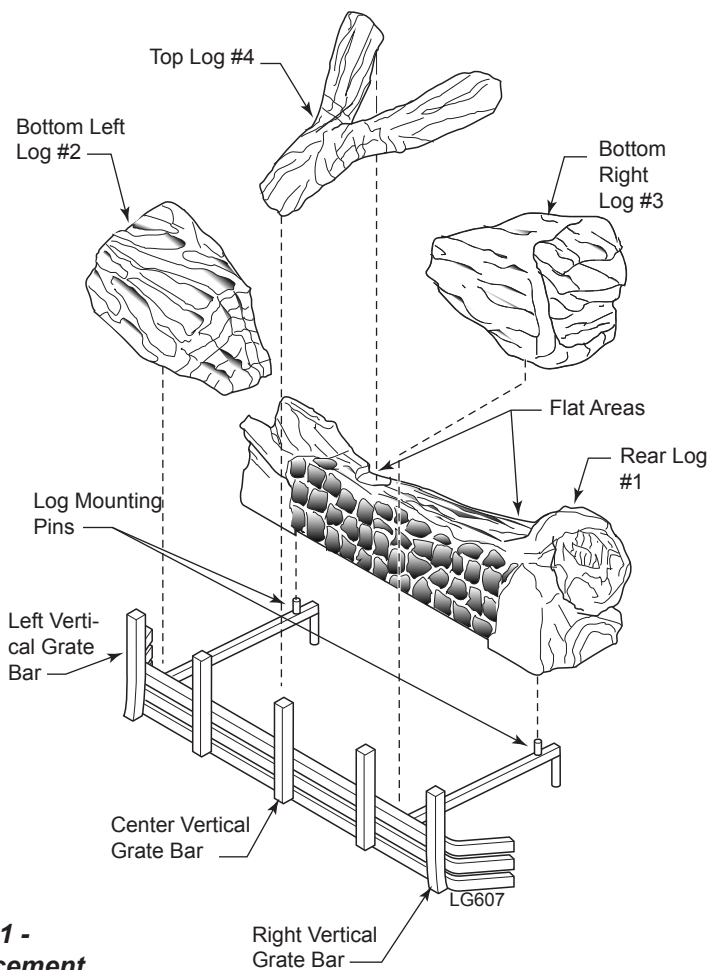

Figure 61 - Log Placement (300DVB & 400DVB Shown)
1. Place rear log (#1) on grate assembly. Log should rest firmly on the two log mounting pins on the bars. *Figure 61*
2. Place bottom left log (#2) on grate. Rest the back side of the log in the flat area of the rear log. *Figure 61*
3. Place bottom right log (#3) on grate. Rest the back side of the log in the flat area of the rear log. *Figure 61*
4. Place the top log (#4) on the rear log. Nest the forked end of the top left log into the fork or the rear log. Rest the narrow end of the top on the vertical grate bar. *Figure 61*